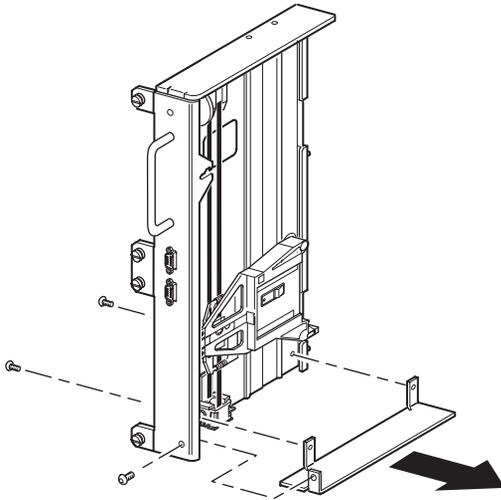

Figure 2–13: Removing the bottom plate from the PTM base unit
2. Slide the media elevator car to the top of the PTM base unit (see Figure 2–14). Note that the top of the PTM base unit has the drive motor on it.